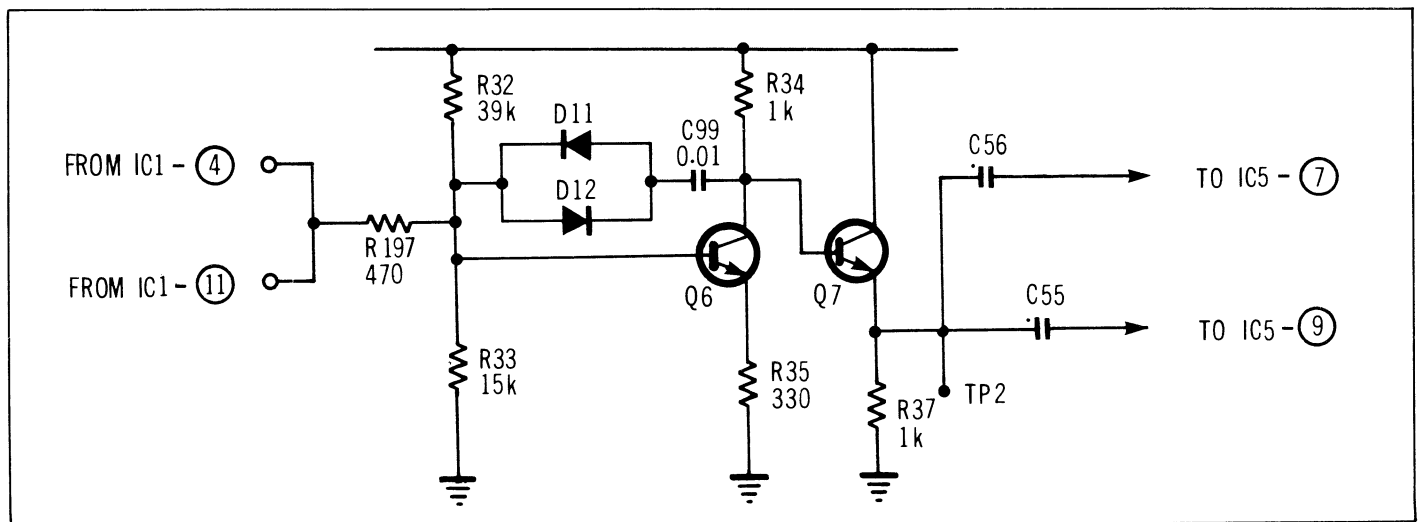

Figure 2-94
The output of the switching IC1 passes to a limiter (D11, D12 and Q6) to remove large amplitude fluctuations by feedback of inverted signal higher than the forward bias of the diodes. The signal passes to buffer (Q7) (See Fig. 2-94), and the output of this buffer goes to IC5 (7), (9) for dropout compensation.